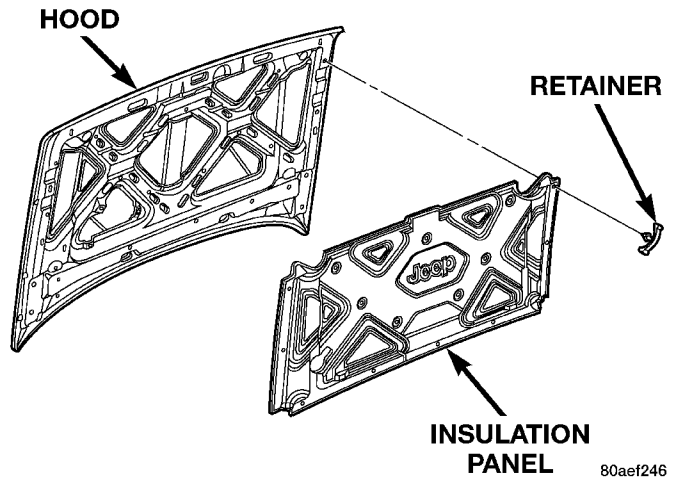

Fig. 3 Hood Insulation Panel
- (1) Raise hood.
- (2) Remove the insulation panel fasteners (Fig. 3).
- (3) Remove the insulation panel from the hood.